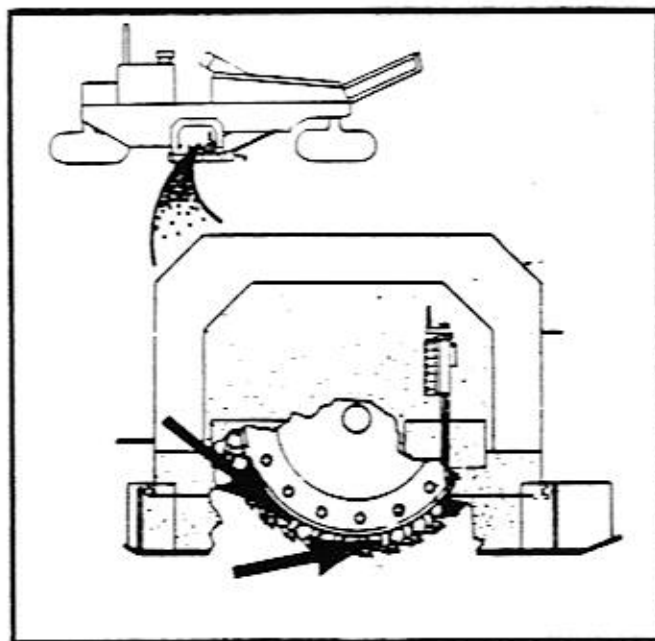

Figure 14-5
2. Remove teeth with one of these tools: a soft faced hammer and punch, an air tool or tooth removal tool from tooth manufacturer. Tap out tooth from the bottom of the holder. Stay clear of the tooth as it is removed. See Figure 14-5.